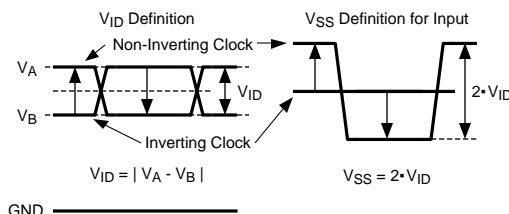
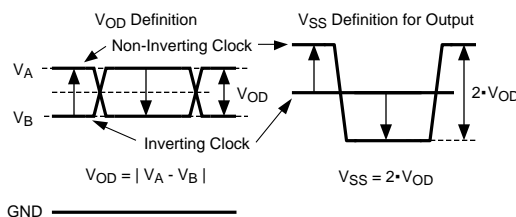

Figure 7-14. Two Different Definitions for Differential Input Signals
Figure 7-15. Two Different Definitions for Differential Output Signals
Figure 7-14 and Figure 7-15 illustrate the two different definitions side-by-side for inputs and outputs respectively. The V_{ID} and V_{OD} definitions show V_A and V_B DC levels that the non-inverting and inverting signals toggle between with respect to ground. V_{SS} input and output definitions show that if the inverting signal is considered the reference, the non-inverting signal voltage potential is now increasing and decreasing above and below the non-inverting reference. Thus the peak-to-peak voltage of the differential signal can be measured. Hence V_{ID} and V_{OD} are often defined as volts (V) and V_{SS} is often defined as volts peak-to-peak (V_{PP}).